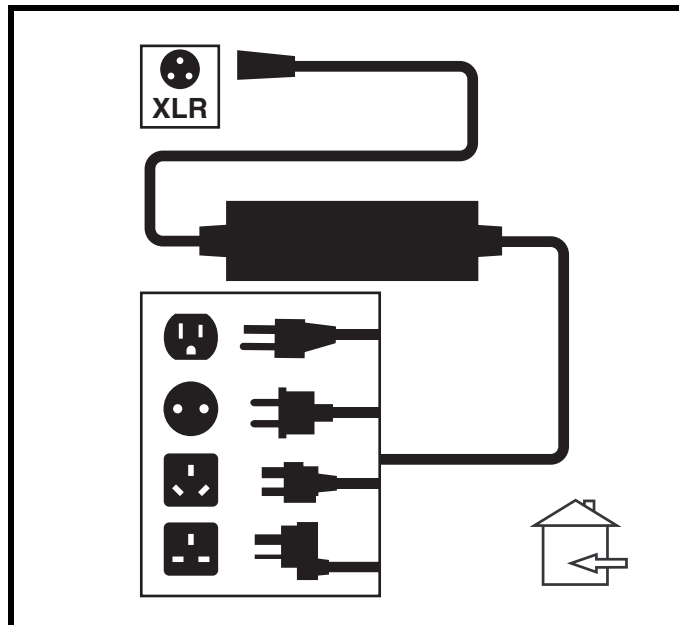

Figure 17. Battery Charging
1. Position the front of your power chair next to a standard electrical outlet. See figure 17.
3. Plug the off-board charger into the off-board charger/programming socket on the controller. See figure 17.